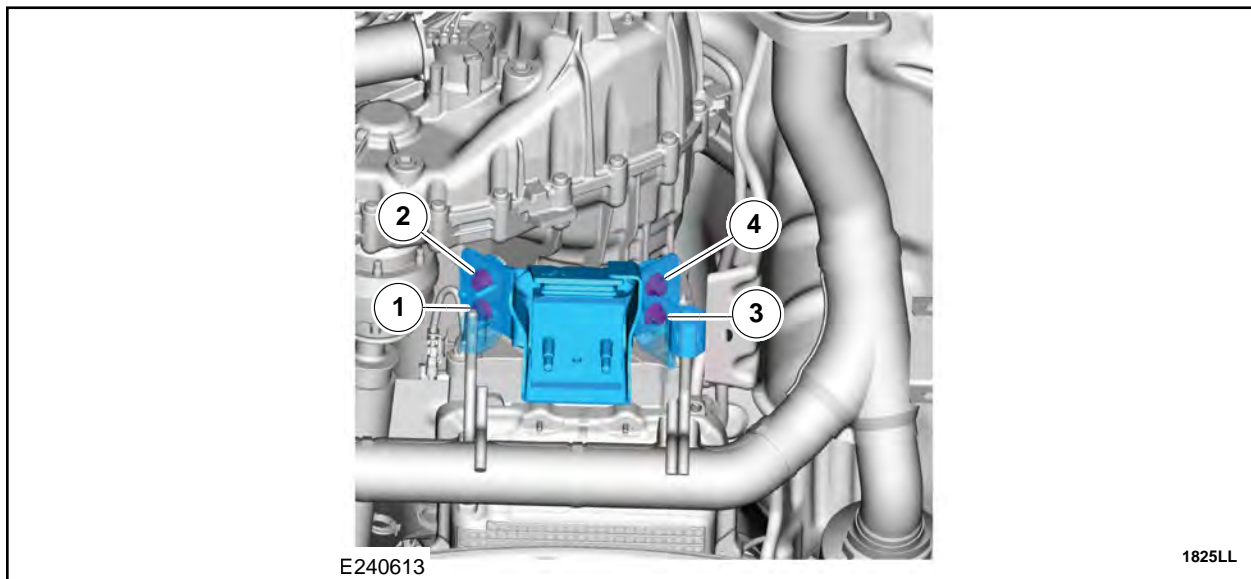

FIGURE 37
57. Install the transmission support insulator bolts in the sequence shown. See Figure 37.